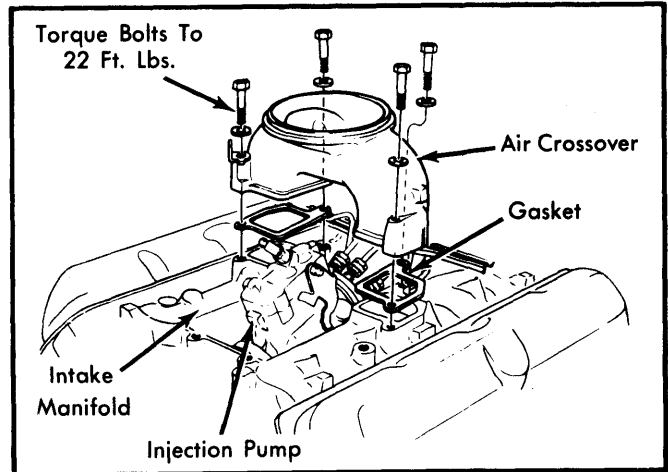

Fig. 2 Disassembled View Of Air Crossover Assembly on GM Diesel Engine
An air crossover housing is located on top of the engine over the injection pump. It is bolted to the intake manifold with 4 bolts and serves as the only air inlet in the system. No fuel passes through the crossover. It is an open-chambered housing with a single inlet drawing air through an air filter assembly mounted above. The crossover unit has two branches, one leading to each side of the intake manifold. Gaskets are installed between crossover and manifold to prevent vacuum leaks. Manufacturer states that starter fluid NEVER BE USED to aid in starting this type diesel engine. See Fig. 2.
2) Remove filters and pipes from valve covers and air crossover. See Fig. 2.